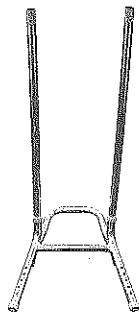

Figure 1
1. Position the leg frame with the handlebar (Part A), flat on the ground as shown in *Figure 1*.